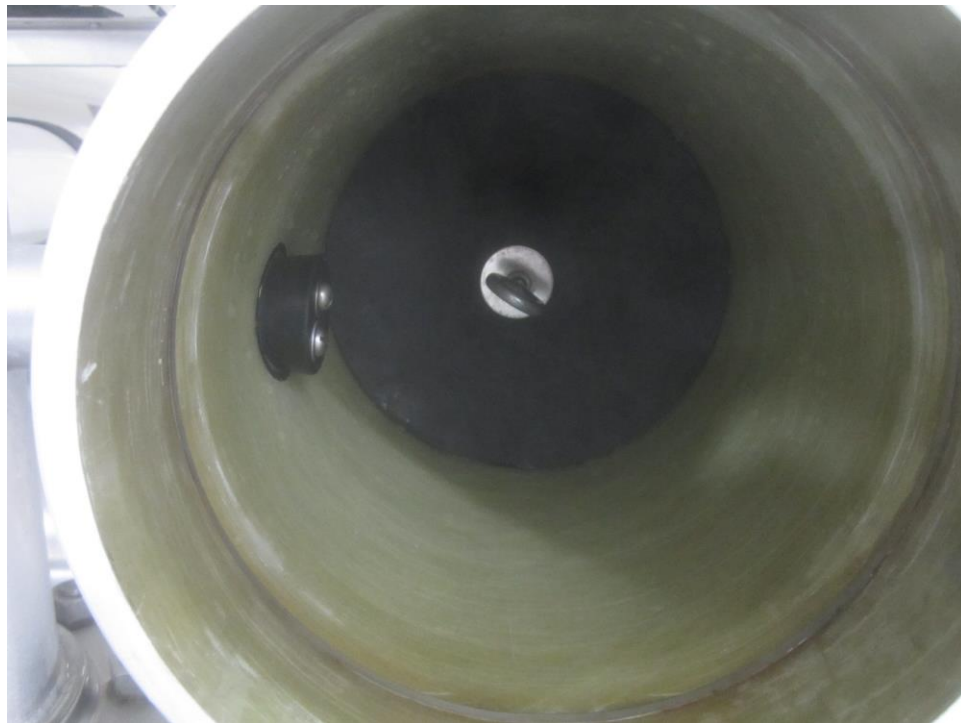

**Figure 7 – Extraction Head**
- a. Using an extra vessel head or an existing one, install fittings and a control valve in order to connect service water from the plant through hoses to the extraction head (Figure 7).